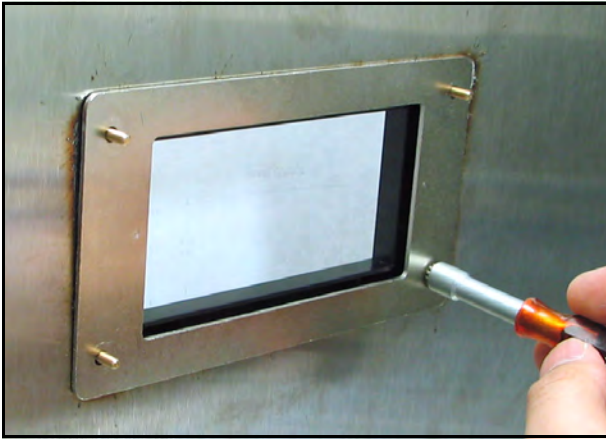
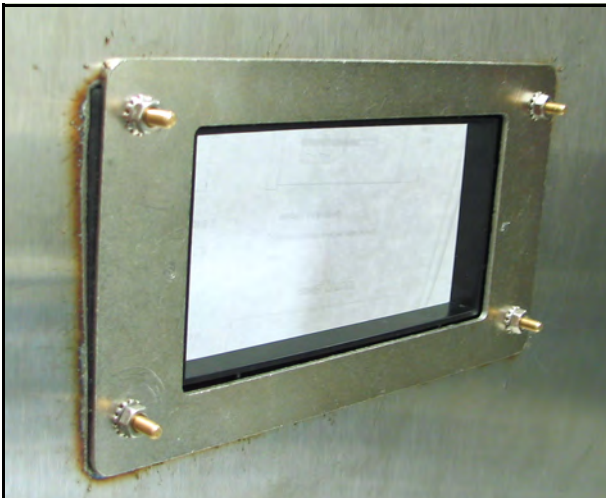

Figure 19: Securing the Assembly to the Panel
Figure 20: Plate Assembly Mounting Complete
4. Apply nuts to the four screws and secure the assembly to the panel (see Figure 19 and Figure 20). Use a feeler gauge behind the gasket, check the compression, and tighten the nuts until the gap is $0.032'' \pm 0.002''$.